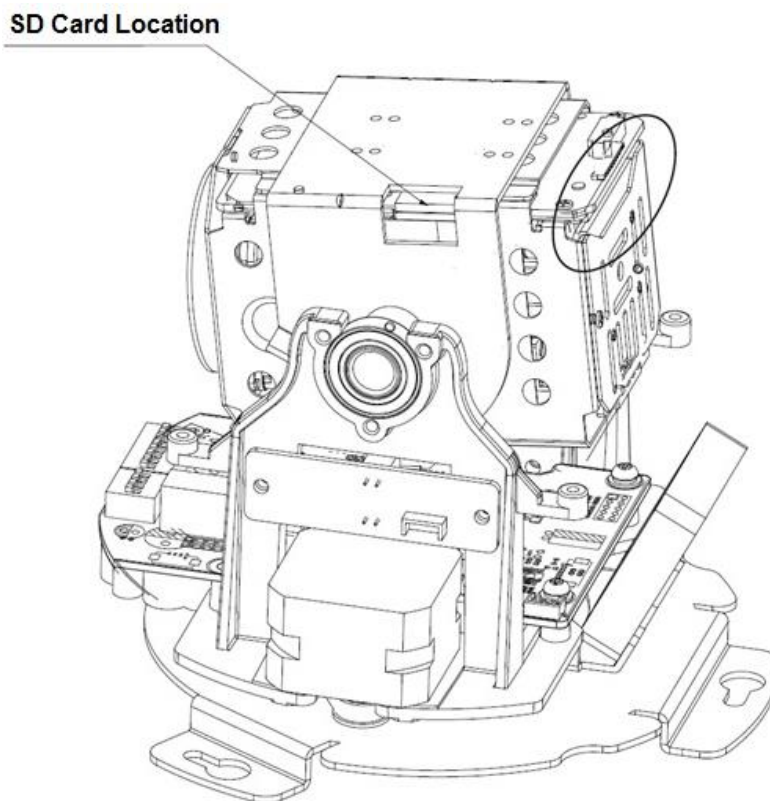

Figure 2-11
The Micro-SD card is installed on the camera module for data storage. See Figure 2-11.
- For some camera modules, the location of SD card slot is in the black circle which is shown in Figure 2-11.